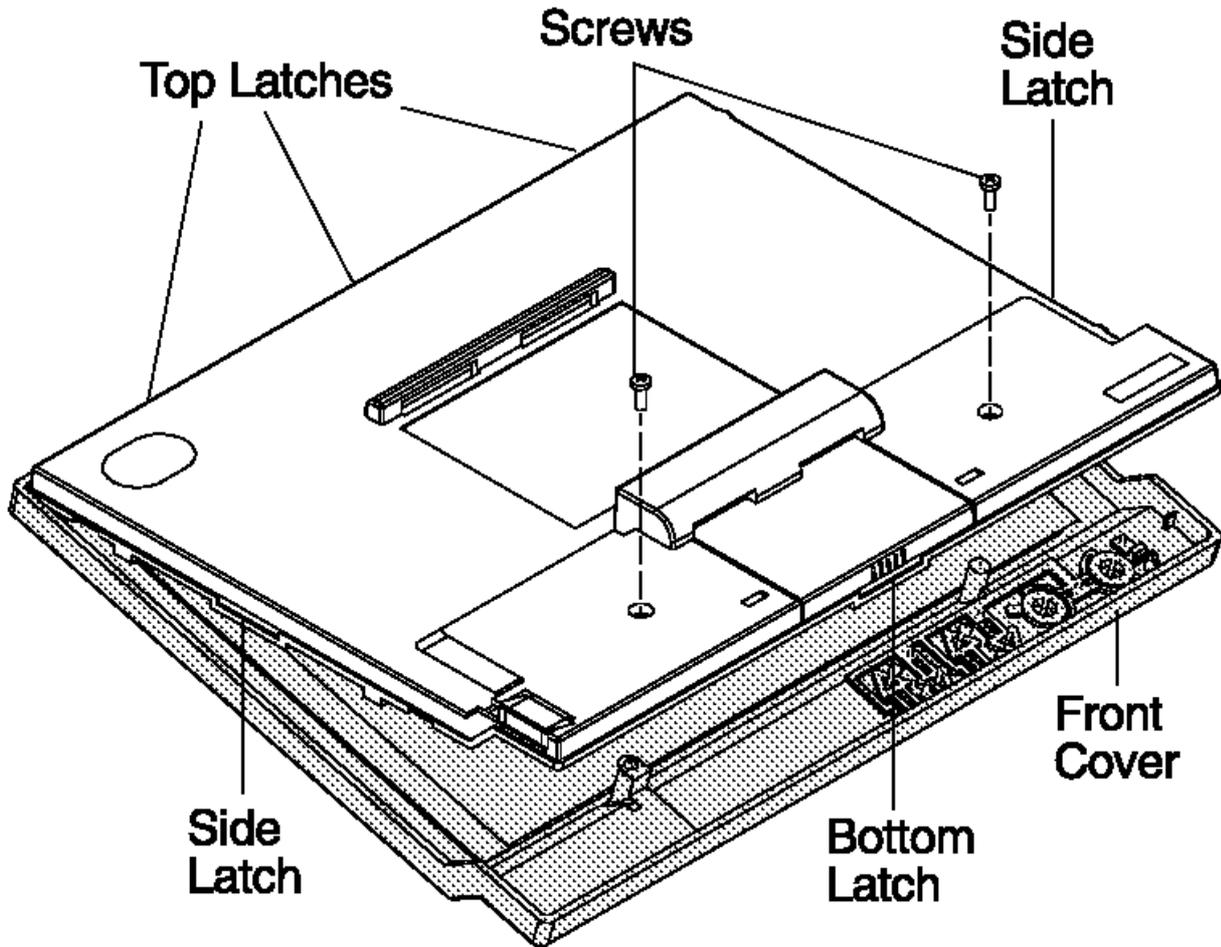

Figure 3-3. Removing the Front Cover
1. Remove the 2 screws (1). See Figure 3-3.
2. Open the front cover by gently prying and flexing the cover outward at the 6 latch locations shown in Figure 3-3. It is best to release at the bottom edge first. Then release the sides, leaving the top until last.